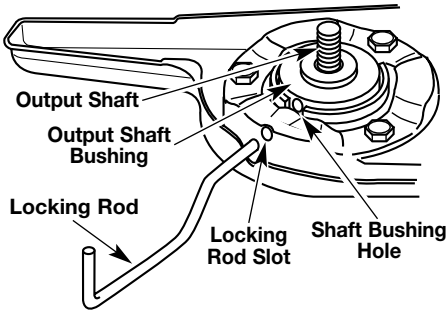

Fig. 8
1. Align the shaft bushing hole with the locking rod slot and insert the locking rod into the shaft bushing hole (Fig. 8).
6. Align the shaft bushing hole with the locking rod slot and insert the locking rod into the bushing hole (Fig. 8).